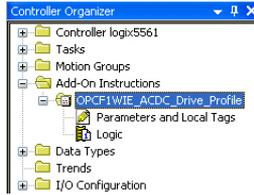

Figure 94: AC/DC Drive Profile AOI
- 2) Right click on “Add-On Instructions” in the controller organizer view and select “Import Add-On Instruction”. Browse and import the AC/DC drive profile AOI. Refer to Figure 94.